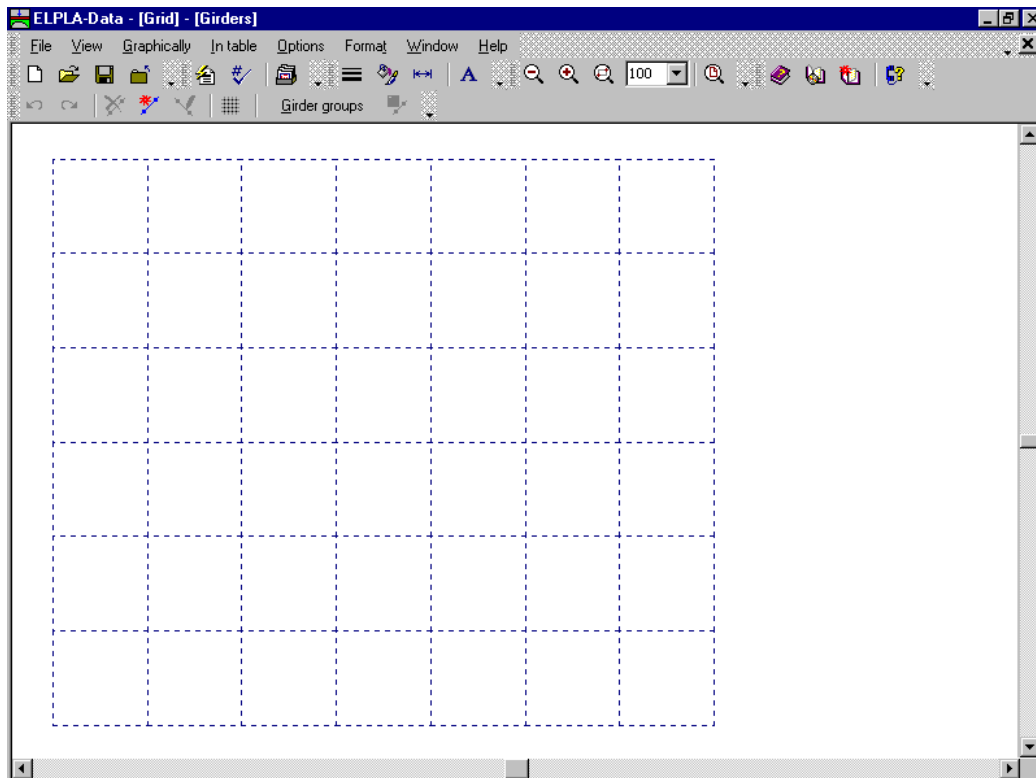
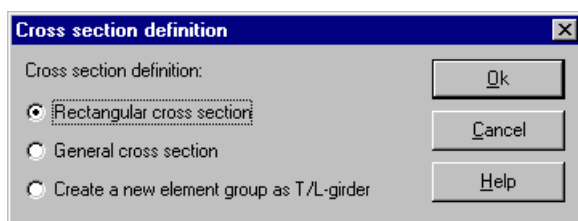

Figure 4-11 "Girders" embedded program
Figure 4-12 "Cross section definition" option box
To define the girders, choose "Girders" command from "Data" menu of *ELPLA-Data* window. The following embedded program in Figure 4-11 appears.
- Choose "Girder groups" command from "In Table" menu in Figure 4-11. The following option box in Figure 4-12 appears
- Choose "Add girders" command from the "Graphically" menu in Figure 4-11. When "Add girders" command is chosen, the cursor will change from an arrow to a cross hair